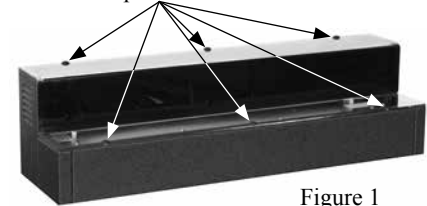

Figure 1
- Remove screws from top, remove tops. (Fig. 1)